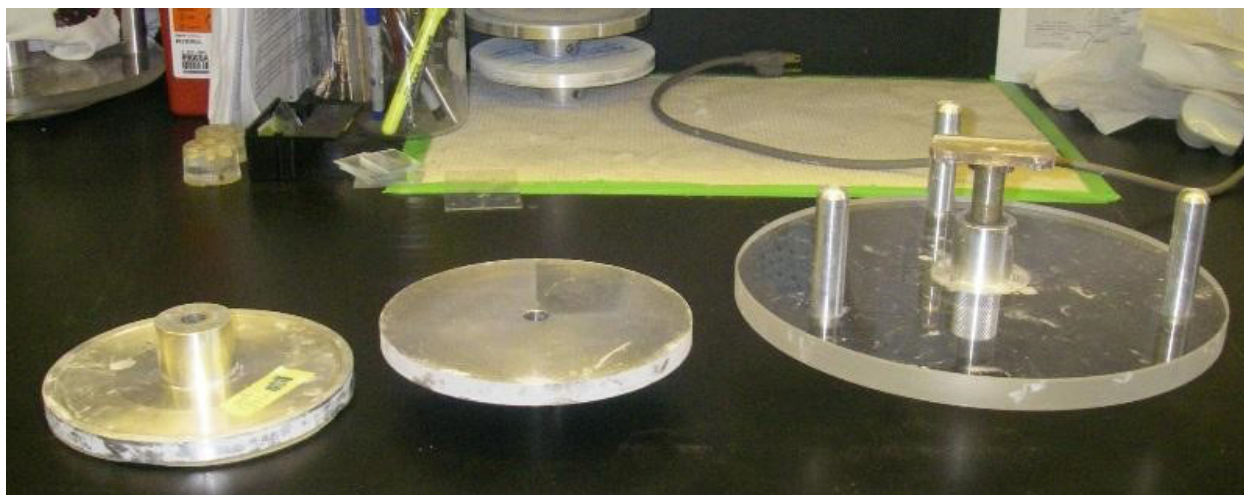

Figure 4. Two grinding plates (left) and a grinding jig (right).
- Plates (Figure 4)
- Grinding jig (Figure 4)